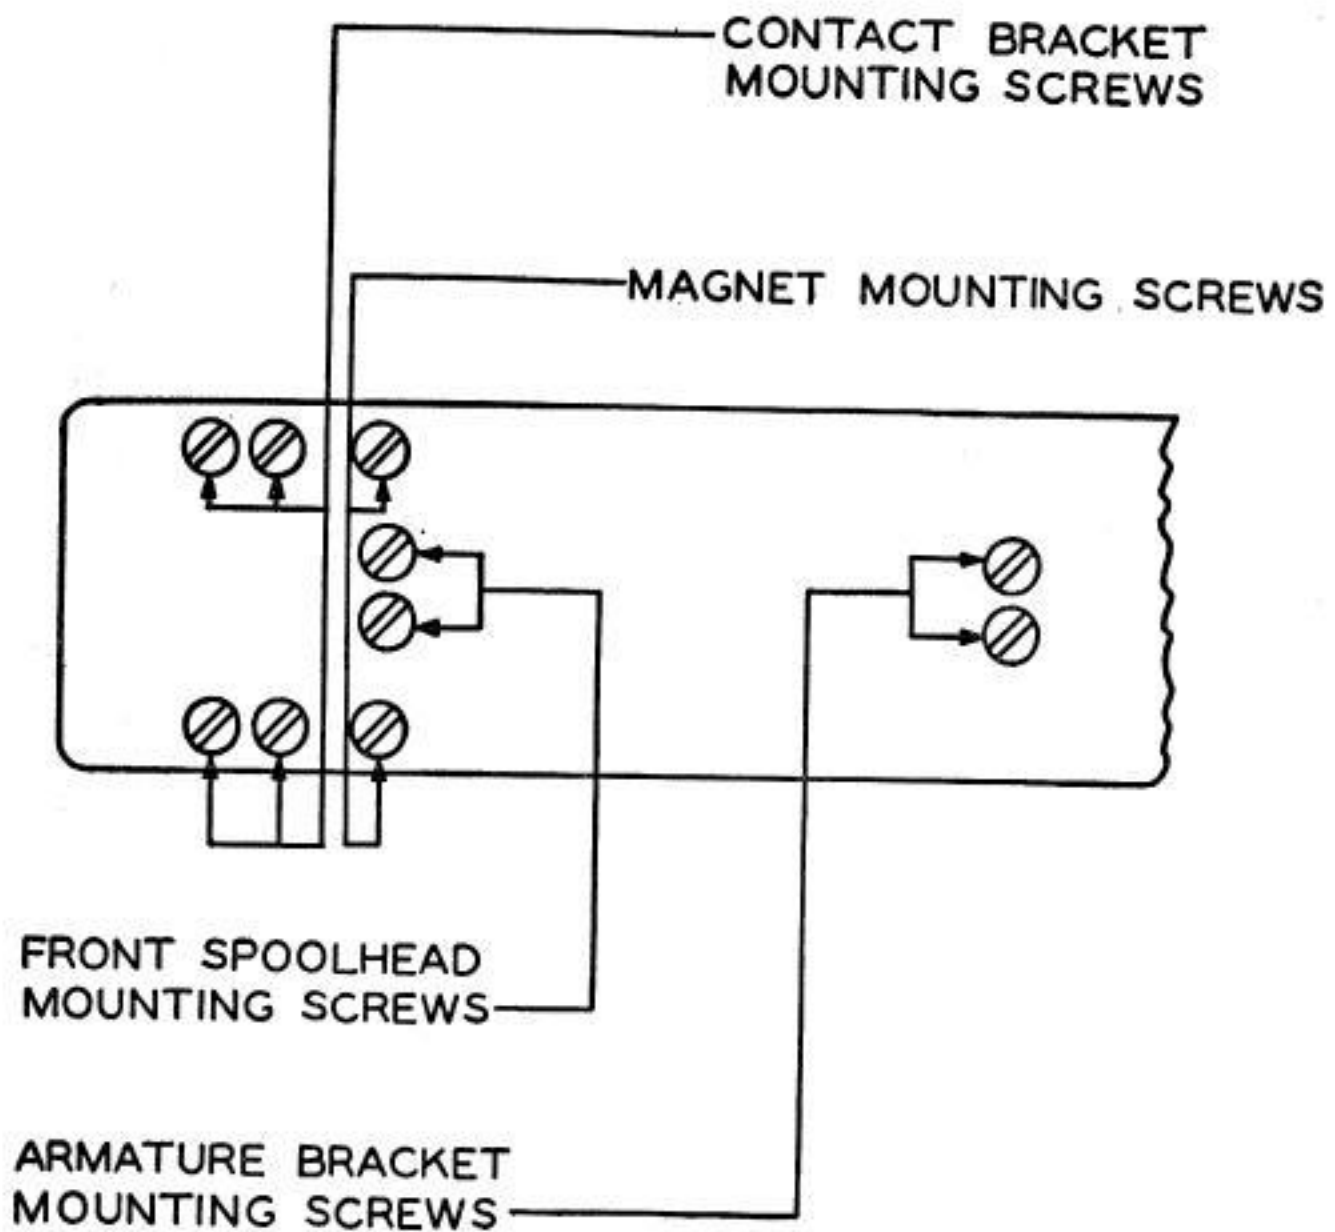

Fig. 9—Frame of 215-type and 255A Relays
(a) To adjust, loosen the two pole-piece mounting-screws and the two armature-bracket mounting-screws. Move the armature bracket. Tighten the two pole-piece mounting-screws. **Fig. 9**
(a) To adjust, loosen the two front spoolhead mounting-screws and move the coil. Tighten the four screws holding the spool to the base (frame) of the relay. See Fig. 9 for identification of parts.
(6) Put in the contact screws. **Fig. 9**
(5) Put in the contact screws. **Fig. 9**